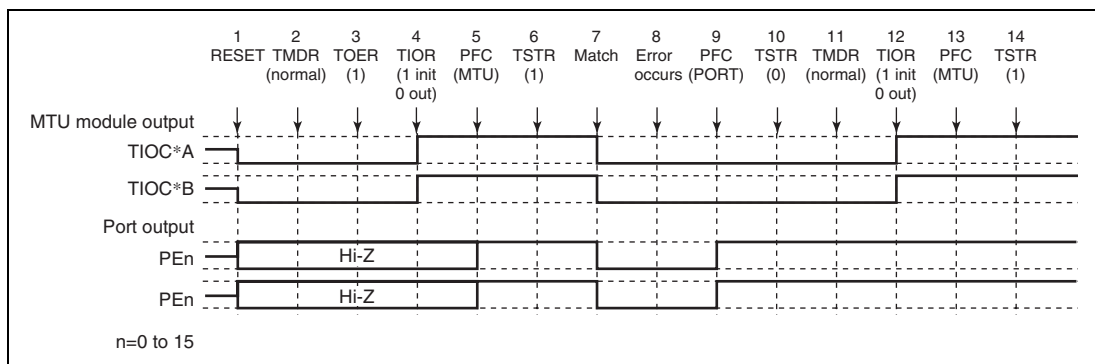

**Figure 11.85 Error Occurrence in Normal Mode, Recovery in Normal Mode**
**Operation when Error Occurs during Normal Mode Operation, and Operation is Restarted in Normal Mode:** Figure 11.85 shows an explanatory diagram of the case where an error occurs in normal mode and operation is restarted in normal mode after re-setting.
1 to 10 are the same as in figure 11.85.